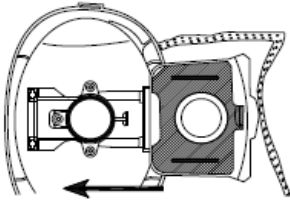

Fig. 3
4. Insert/slide new bag. Cardboard face should rest securely in the bag cover guides. (Fig. 3)